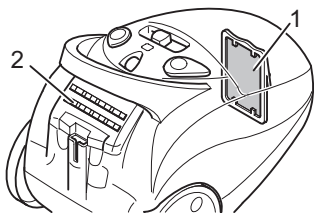

Fig. 23
■ If the dust filter bag is defective, a **protective motor filter (Fig. 23/1)** prevents larger particles from destroying the motor.
■ A **hygienic blow-out filter (Fig. 23/2)** filters the finest particles from the blown-out air.